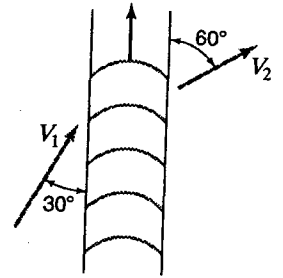

Figure P6.34
6.34 A 3-in-diameter air jet impinges on a series of blades, entering smoothly, and having absolute velocities $V_1 = 200$ fps and $V_2 = 150$ fps as shown in Fig. P6.34. Assume $\gamma = 0.075$ lb/ft³, that the pressure is the same on both sides, and neglect friction. (a) What is the velocity of the blades and the power being transmitted to them? (b) Determine the blade angles necessary at entrance and exit.